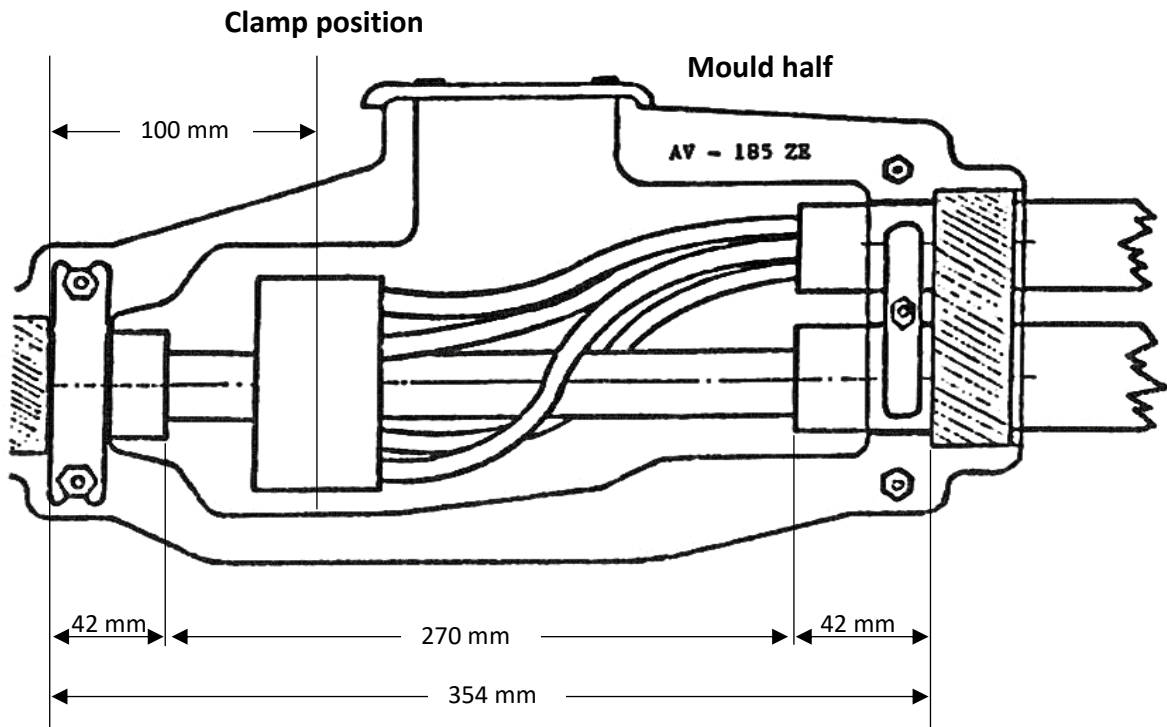
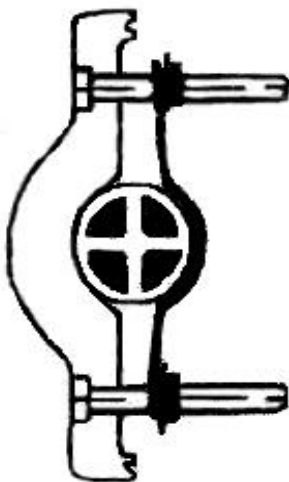

Figure 1
Figure 2
- Remove sheath of main cable 270 mm (see Fig. 1).
- Install the clamp according to the clamp manufacturer's instructions, ensuring correct positioning (see Fig. 1).
- Assemble one mould half as shown in Fig. 1, attach strain relief clamps (see Figs. 2 and 3).